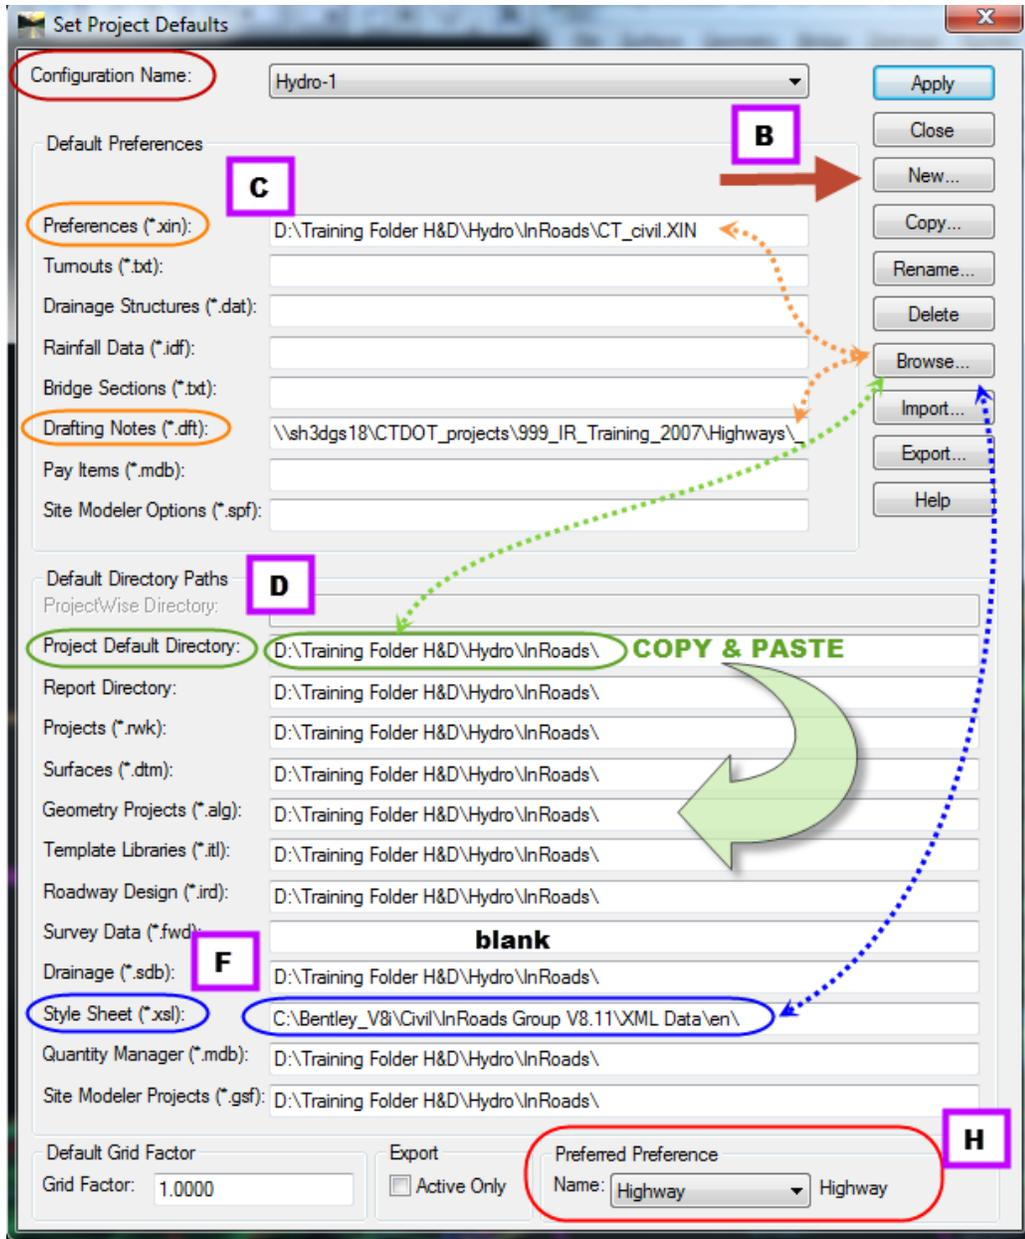

Figure 6 - Project Defaults
- A. Click to **File > Project Defaults** on the InRoads Main Menu. See Figure 6.